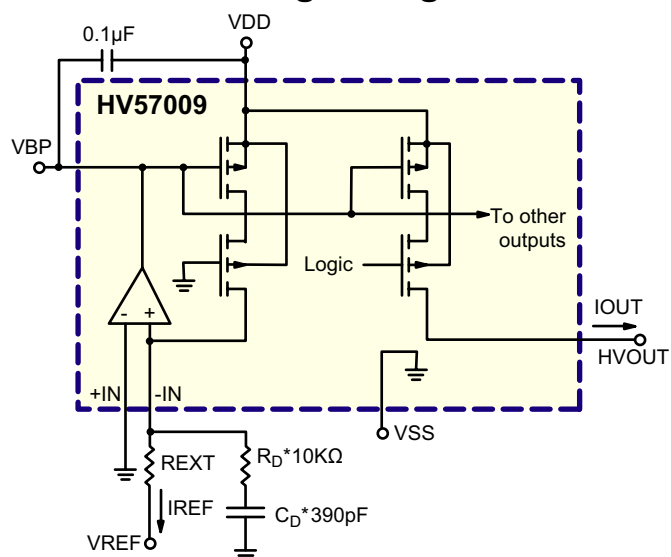

Figure 1a: Negative Control
2. A 0.1 μ F capacitor is needed between VDD and VBP (pin 40) for better output current stability and to prevent transient cross-coupling between outputs. See Figures 1a and 1b.